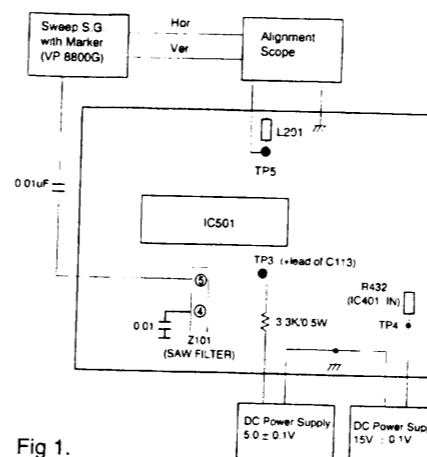

Fig 1.
- 1: Connect measuring equipment to the TV as shown in fig 1.